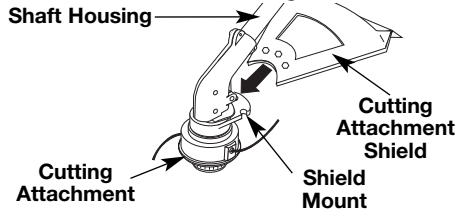

Fig. 2
1. Slide the cutting attachment shield into the shield mount on the cutting attachment. Align the screw holes in the shield with the holes in the cutting attachment shield mount (Fig. 2).